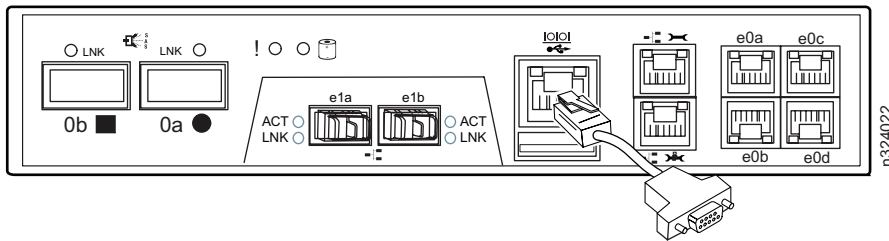

Figure 10. Cabling the console port
1. Connect the RJ-45 to DB-9 adapter (as shown in Figure 10) from the adapter kit to the console port on the system.
2. Connect one end of the serial null modem cable to your console, and then connect the other end to the DB-9 end of the adapter (as shown in Figure 10).